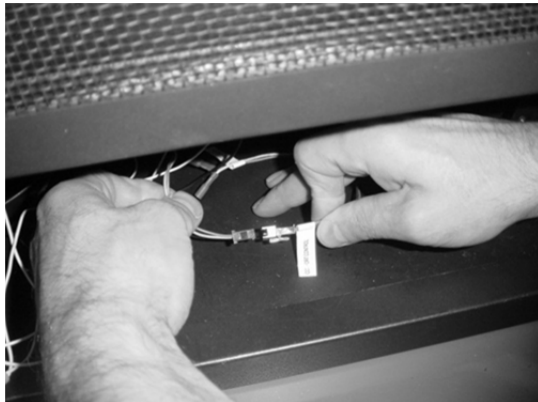
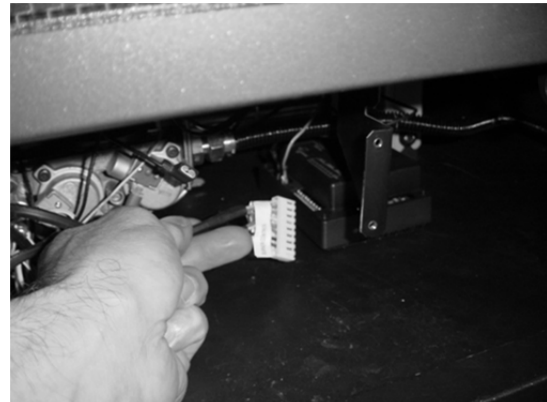

Figure 9
Figure 10
- 6 Disconnect the comfort control valve connection (see Figure 9). Disconnect the burner control connector from the fireplace burner control (see Figure 10).